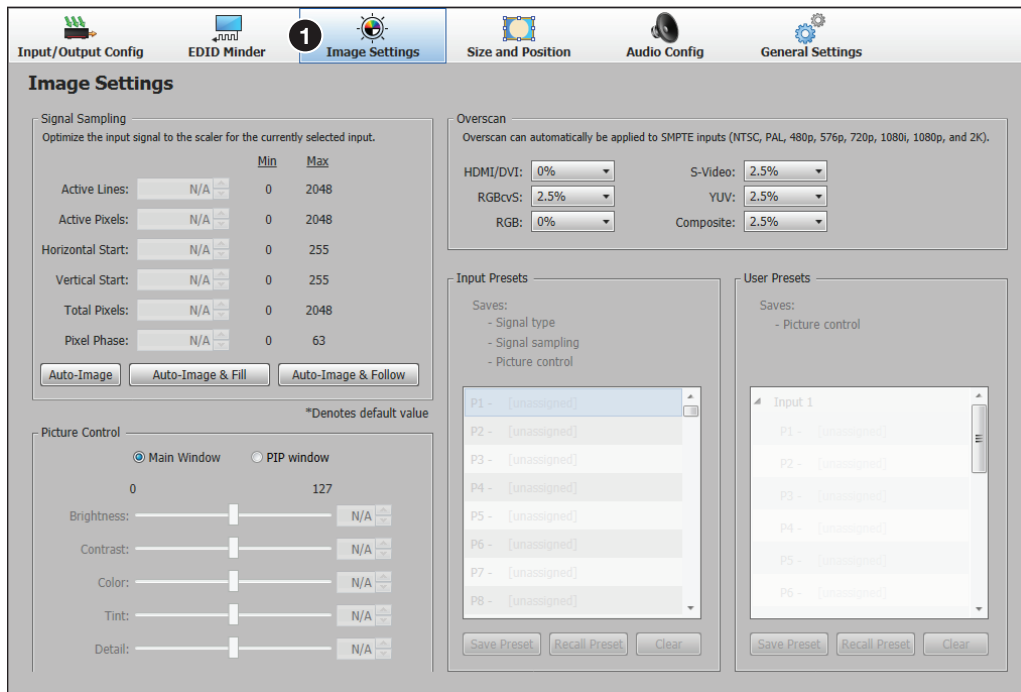

Figure 54. Image Settings Page
From this page, signal sampling and picture control settings can be adjusted, user and input presets can be saved and recalled, and overscan settings can be applied. In addition an Auto-Image, an Auto-Image and Fill, or an Auto-Image and Follow can be triggered. Click the **Image Settings** icon (see figure 54, ❶) on the global navigation bar to open the Image Settings page.